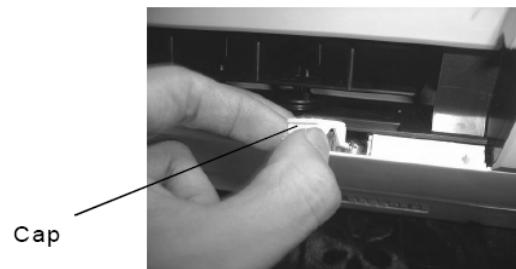

Fig. 3
1. Remove the two caps at the discharge port (right and left) (Fig. 3)